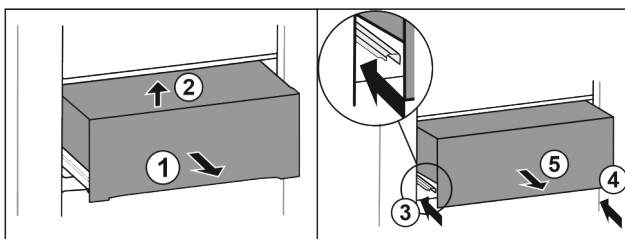

Fig. 31
- Pull out the drawer halfway Fig. 31 (1).
- Lift at the front Fig. 31 (2).
- Slide in left rail Fig. 31 (3).
- Slide in right rail Fig. 31 (4).
- Remove the drawer to the front Fig. 31 (5).